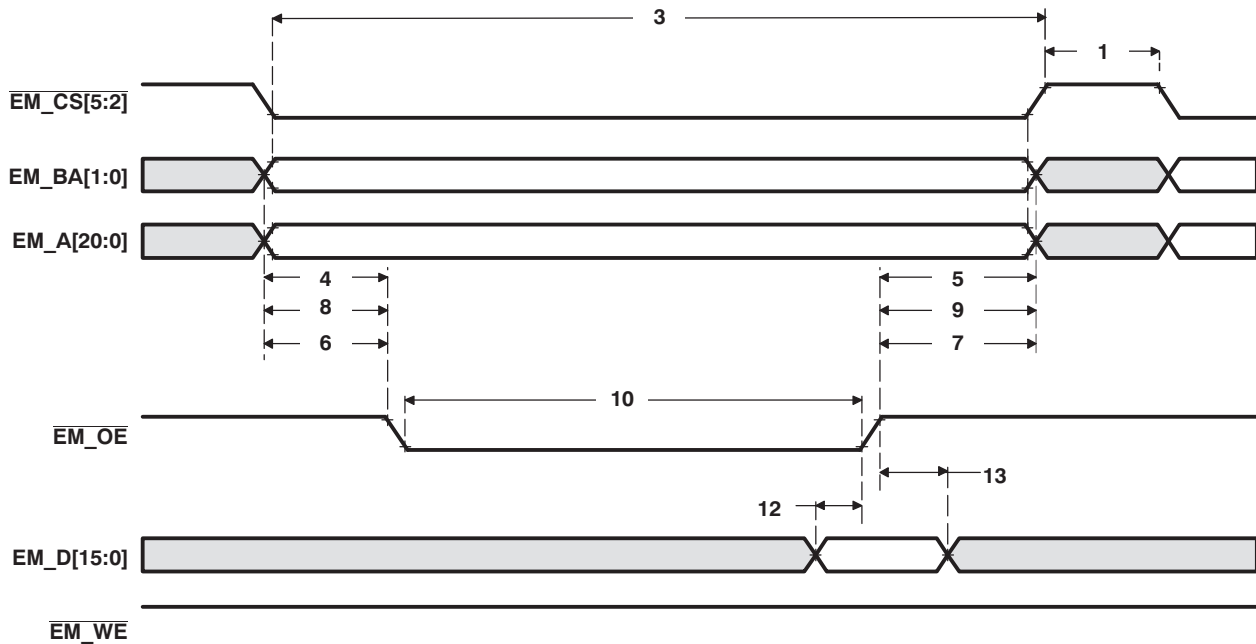
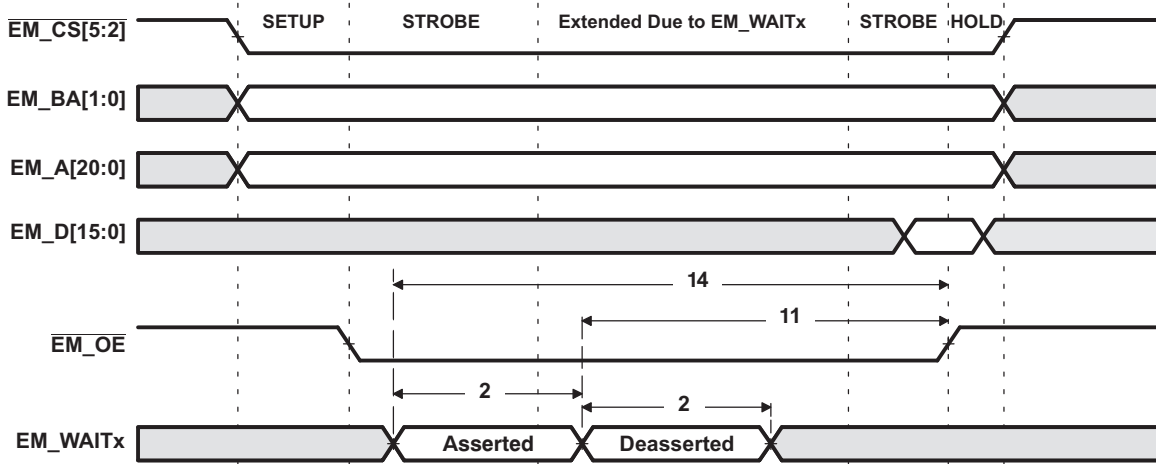
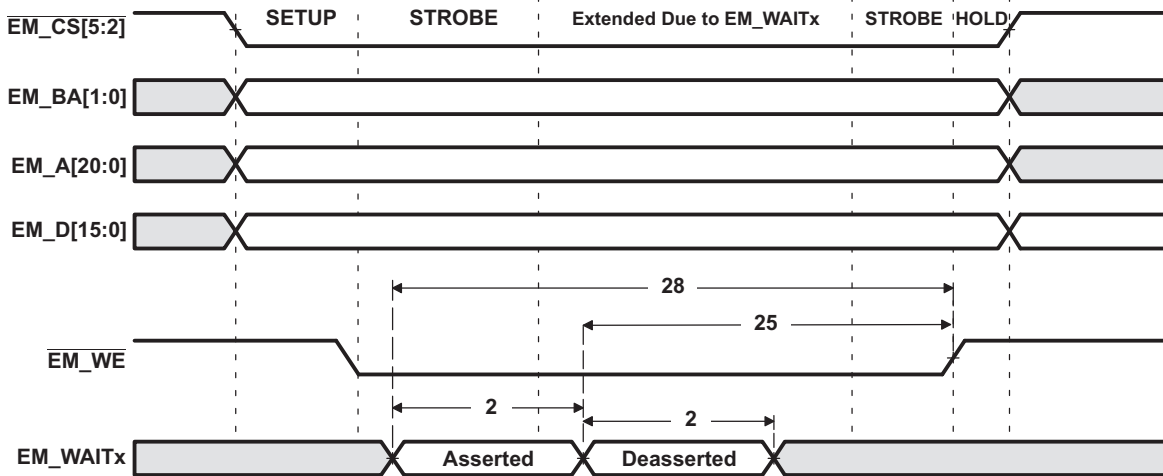

Figure 6-17. Asynchronous Memory Read Timing for EMIF
Figure 6-19. EM_WAITx Read Timing Requirements
Figure 6-20. EM_WAITx Write Timing Requirements
Table 6-19. Timing Requirements for EMIF Asynchronous Memory⁽¹⁾ (see Figure 6-17, Figure 6-19, and Figure 6-20)
(1) E = SYSCLK period in ns. For example, when SYSCLK is set to 100/120 MHz, E = 10/8.33 ns, respectively.
(2) Setup before end of STROBE phase (if no extended wait states are inserted) by which EM_WAITx must be asserted to add extended wait states. Figure 6-19 and Figure 6-20 describe EMIF transactions that include extended wait states inserted during the STROBE phase. However, cycles inserted as part of this extended wait period should not be counted; the 4E requirement is to the start of where the HOLD phase would begin if there were no extended wait cycles.
Table 6-20. Switching Characteristics Over Recommended Operating Conditions for EMIF Asynchronous Memory^{(1) (2) (3)} (see Figure 6-17, Figure 6-19, and Figure 6-20)
- (1) TA = Turn around, RS = Read setup, RST = Read strobe, RH = Read hold, WS = Write setup, WST = Write strobe, WH = Write hold, MEWC = Maximum external wait cycles. These parameters are programmed via the Asynchronous Configuration and Asynchronous Wait Cycle Configuration Registers.
- (2) E = SYSCLK period in ns. For example, when SYSCLK is set to 100/120 MHz, E = 10/8.33 ns, respectively.
- (3) EWC = external wait cycles determined by EM_WAITx input signal. EWC supports the following range of values EWC[256-1]. Note that the maximum wait time before timeout is specified by bit field MEWC in the Asynchronous Wait Cycle Configuration Register.
Table 6-20. Switching Characteristics Over Recommended Operating Conditions for EMIF Asynchronous Memory^{(1) (2) (3)} (see Figure 6-17, Figure 6-19, and Figure 6-20) (continued)